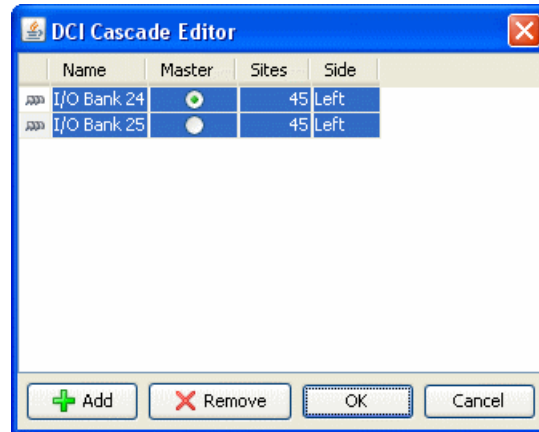

Figure 8-14: Creating a DCI Cascade
2. Right-click and select the **Create a DCI Cascade** popup menu command. The DCI Cascade editor opens as shown in Figure 8-14, page 253.